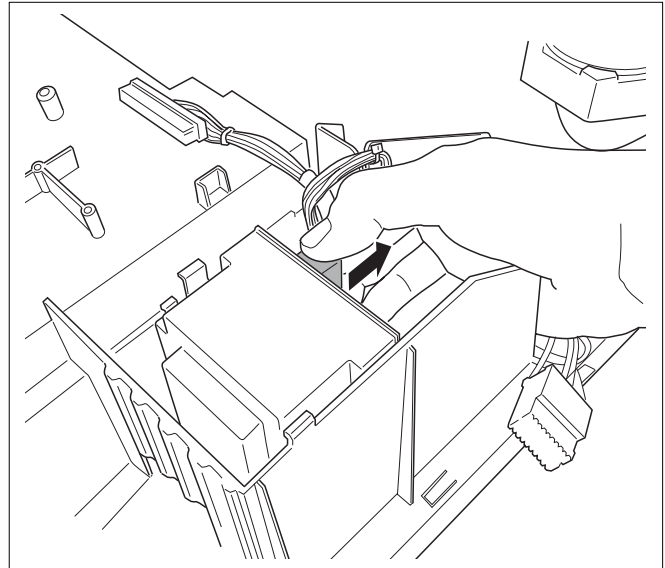

Fig. 99 Pulling the plugs from the transformer
- Pull both plugs on the rear of the transformer (see fig. 99).